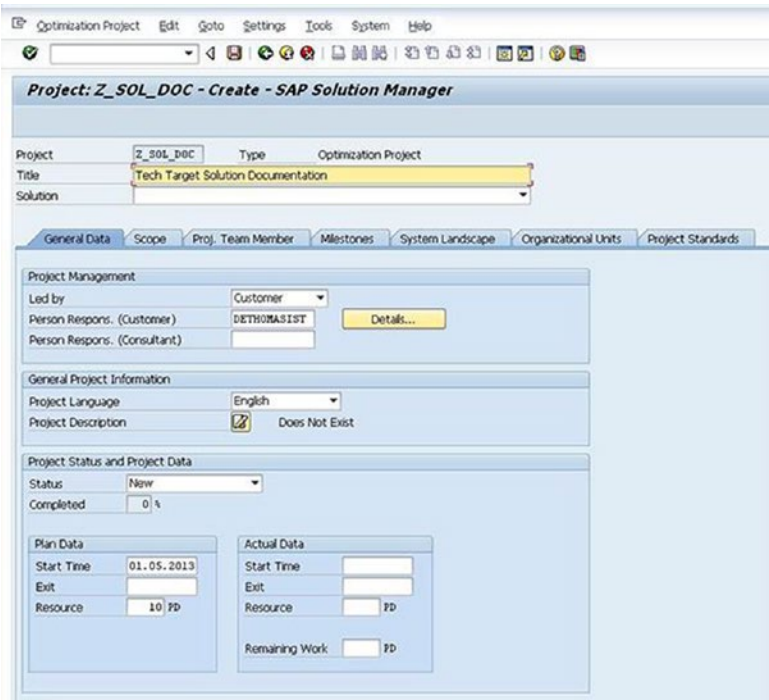

Figure 10-5. Create a project in SAP SolMan
1. Start Project Administration drop-down menu in the SAP Solution Manager work center. Enter the title and project name to create the project, as shown in Figure 10-5. To set up the business blueprint structure, choose System Landscape ► Systems.